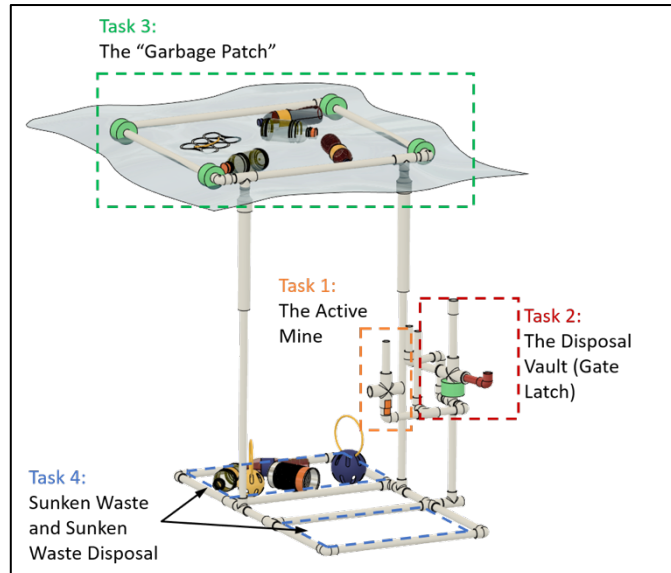
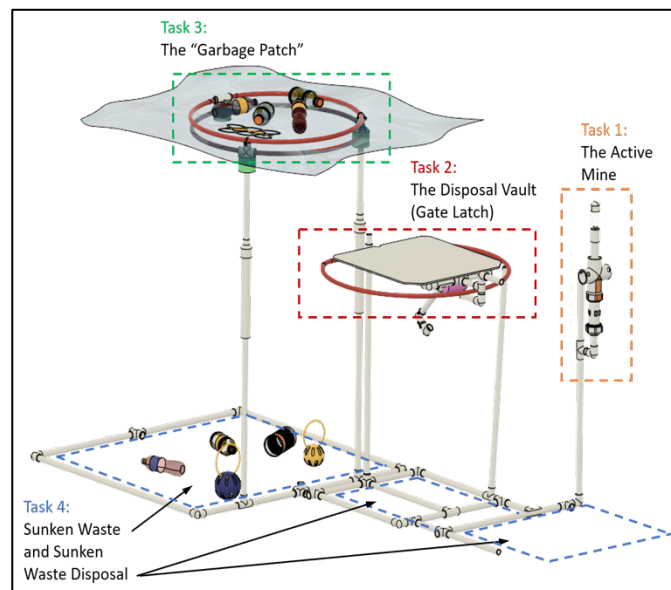

Figure 1 –Waterway Cleanup Mission Course (Mini Course)
Figure 2 – Waterway Cleanup Mission Course (Full Course)
Active Mine shown in *Figure 1* or the housing and structure of the Active Mine shown in *Figure 2* may be used.
- **Task 3:** The Garbage Patch maybe be constructed as shown in either *Figure 1* or *Figure 2*. A simplified single ring frame may be used instead of the double ring frame shown in *Figure 2*. The minimum size of the ring is 24” in diameter or a 24” x 24” square.